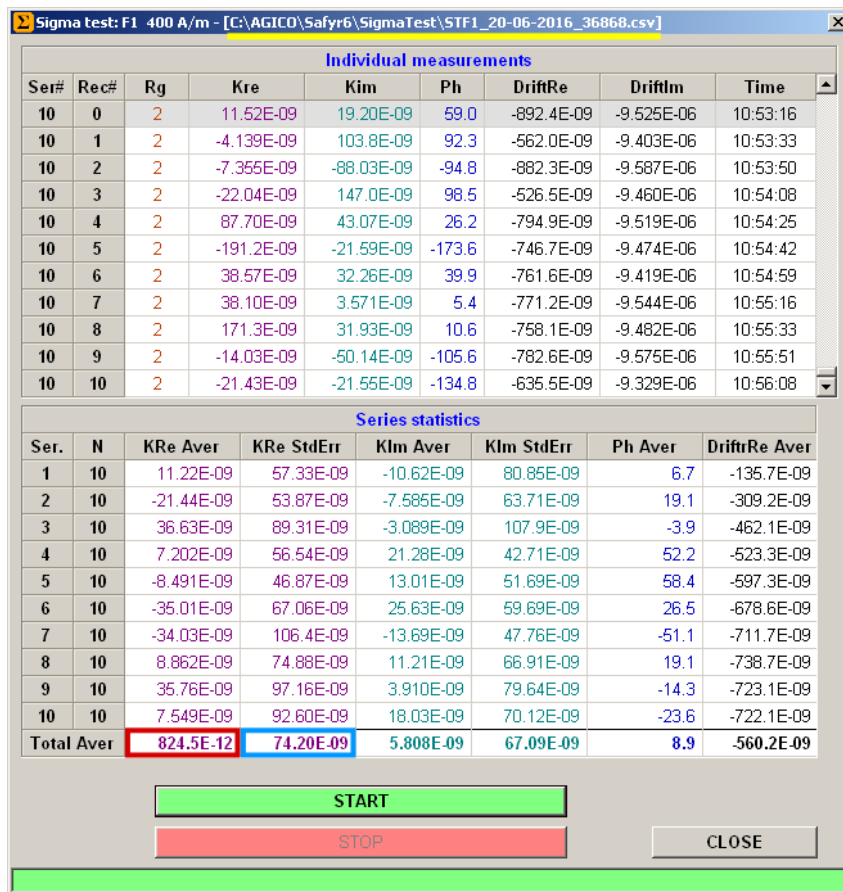

Figure 4: Sigma Test window with results
- Results of Sigma Test are shown on Fig.4. **KRe Aver** represents mean value of susceptibility calculated from sets of measurements. Total average of in-phase (real) susceptibility value is marked by the red rectangle - value is close to the zero. **KRe StdErr** represents Standard deviation of in-phase susceptibility estimated from entire routine and it is marked by the blue rectangle. To consider Sigma Test as successful value must be:
- Results of Sigma Test are automatically saved to the *.csv datafile. Path of this file is C:\AGICO\SAFYR7\SigmaTest. Name of the file is derived from actual date and time. Actual path and name of datafile is shown in the header of Sigma Test window (marked by the yellow line in Fig. 4).